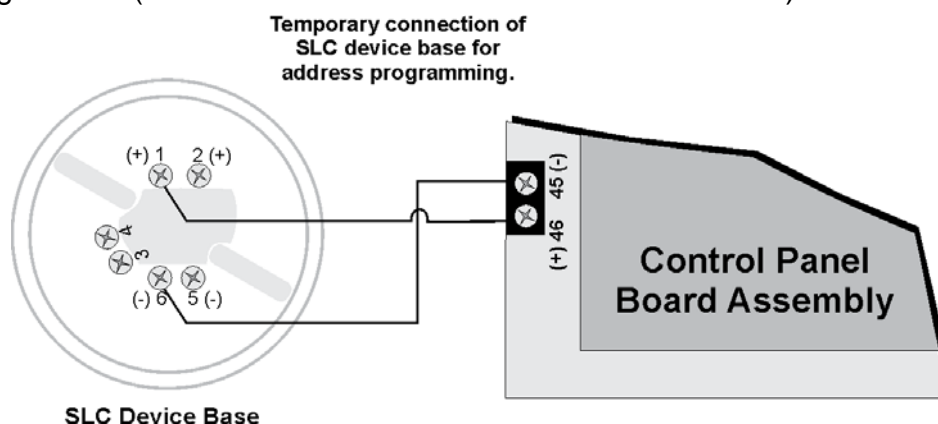

Figure 5-7 Temporary Connection of Detector Base to Panel for Addressing
1. Connect a detector base temporarily to the programming terminals as shown in Figure 5-7. (You can use the same base for each detector).